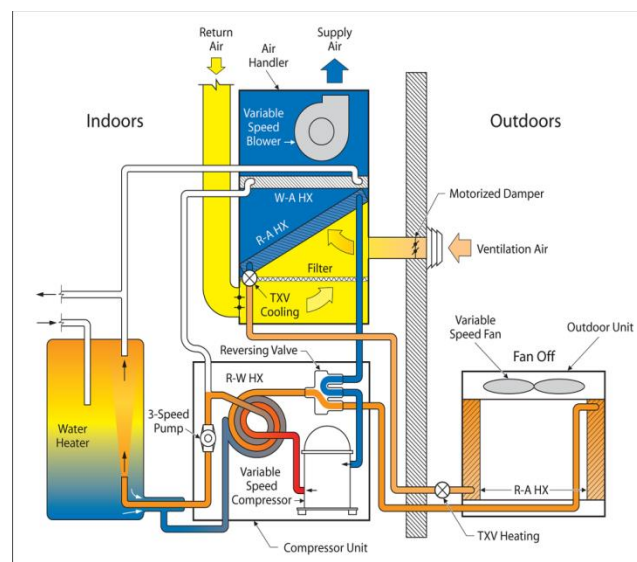

Figure 1. Schematic of Air Source Integrated Heat Pump.
The Air Source Integrated Heat Pump (ASIHP) is an air source, multi-functional spacing conditioning unit with water heating function (WH), as shown in Figure 1, which usually uses a variable-speed compressor, variable-speed indoor blower, and outdoor fan. By recovering the condenser waste heat for water heating, ASIHPs are able to achieve significant energy savings. The U.S. Department of Energy (DOE) has invested in developing such an advanced, edge-cutting technology for years, and now it is ready to be launched to the market. Due to premium variable-speed compressors and fans applied, initial cost of an ASIHP is high. However, the payback period should be short due to its significant energy saving potential, i.e., >50%. In support of DOE's goal to promote energy saving technologies, EnergyPlus needs to model operation and control mechanisms of ASIHPs, simulate annual energy savings, and estimate payback periods. This will provide justifications for end consumers to select the highly efficient product. Current version of EnergyPlus is able to simulate individual working modes of the ASIHP, i.e., variable-speed cooling coil (Coil:Cooling:DX:VariableSpeed), variable-speed heating coil (Coil:Heating:DX:VariableSpeed), and variable-speed water heating coil (Coil:WaterHeating:AirToWaterHeatPump:VariableSpeed). Nonetheless, there is still lack of a feature to integrate these modes together and simulate the multi-functional ASIHP operations. EnergyPlus needs to add the feature of ASIHP to contain all the variable-speed, space conditioning, and water heating sub-models.